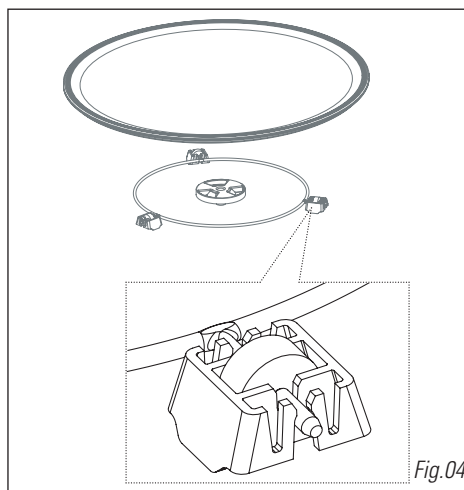

Fig.04
- **The driver:** causes the glass turntable to turn (*Fig.04*).
- **The base rollers:** Rollers must be positioned in the right direction (*Fig.04*).